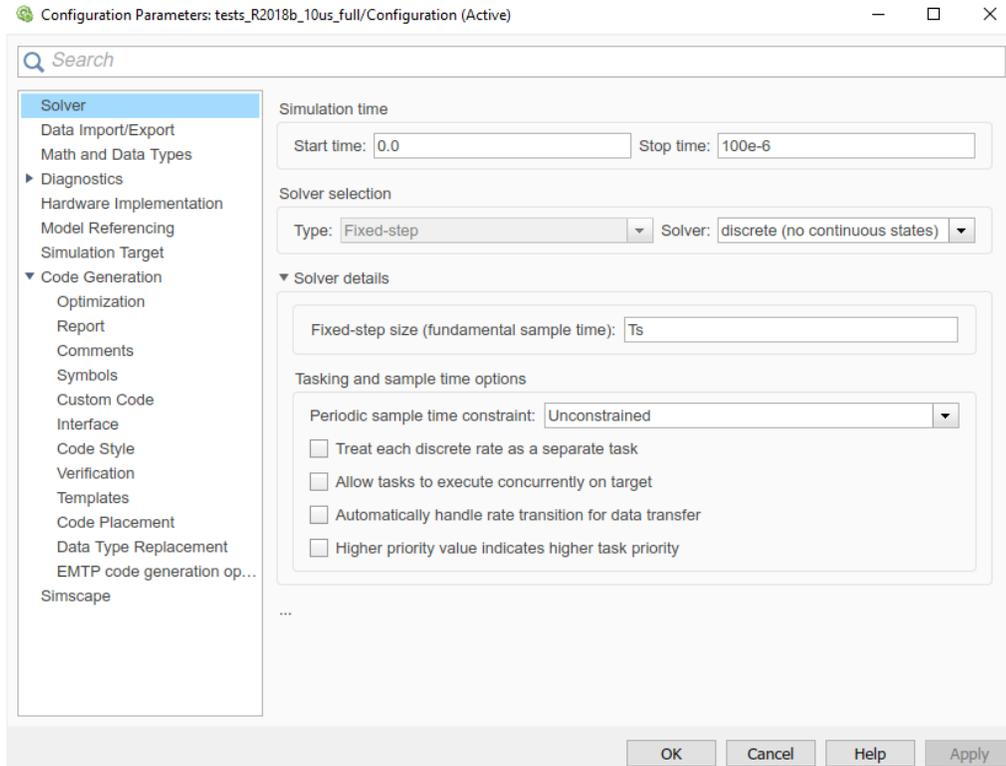

Figure 4 Simulink Model Configuration Parameters, Solver.
3. Select Solver (see Figure 4) and verify that the Fixed-step size is set to the variable Ts.